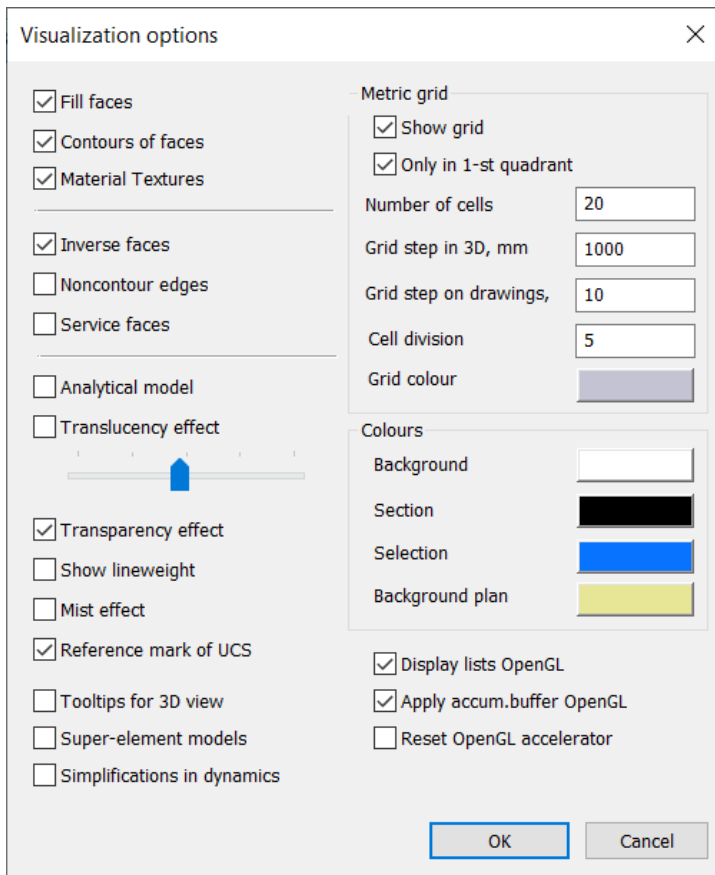

Figure 23.3. Visualization options dialog box
- ⇒ In the **Visualization options** dialog box (see Fig. 23.3), define the following data: